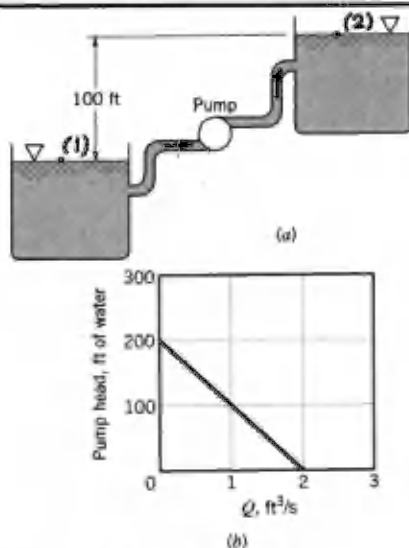

FIGURE P5.21R
5.21R (Energy equation) A pump transfers water from one large reservoir to another as shown in Fig. P5.21Ra. The difference in elevation between the two reservoirs is 100 ft. The friction head loss in the piping is given by  $K_L V^2/2g$ , where  $V$  is the average fluid velocity in the pipe and  $K_L$  is the loss coefficient, which is considered constant. The relation between the total head rise,  $H$ , across the pump and the flowrate,  $Q$ , through the pump is given in Fig. 5.21Rb. If  $K_L = 40$ , and the pipe diameter is 4 in., what is the flowrate through the pump?